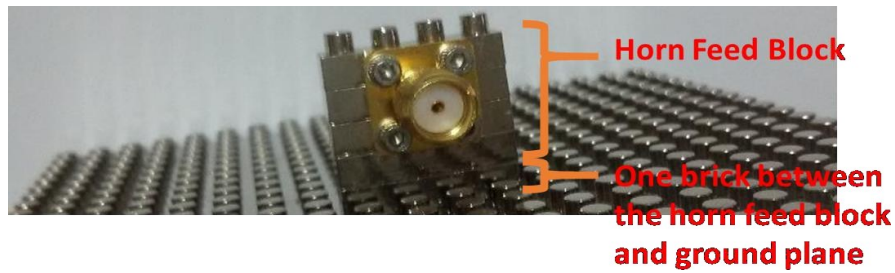

Figure 16 Locate the Horn Feed Block
15. Locate the feed block one row over the back plane as shown in Figure 16 (There will be one brick between the backplane and horn feed block). Be careful to locate the feed block in the middle of “a”. The waveguide height will be 0.72λ at 6 GHz. Use 1X1, 1X2, 1X3, 1X4 and 1X6 cells to build the waveguide.